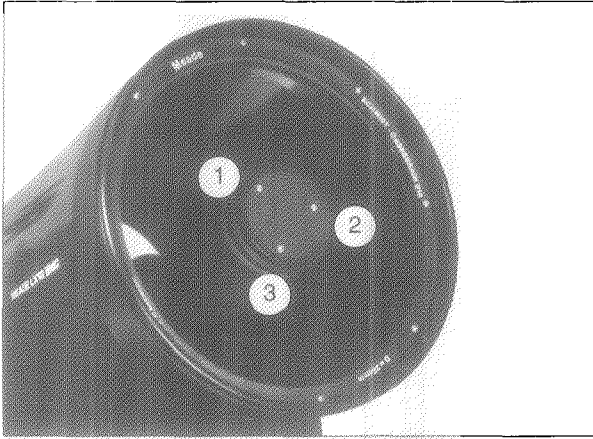

Fig. 23: (1), (2), (3) set screws for adjusting collimation.
1. The only adjustments possible, or necessary, on the 8" and 10" LX50 models are from the three set screws (Fig. 23) located at the edge of the outer surface of the secondary mirror housing.